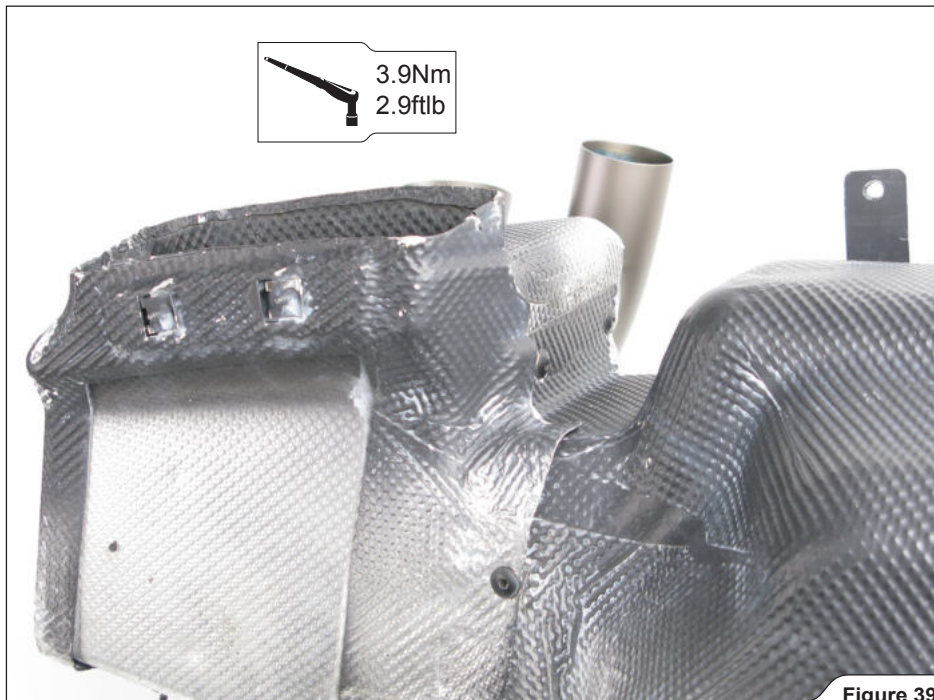

Figure 39
5. Mount the front and side parts of the original muffler's heat shield onto the Akrapovič muffler in the reverse order from the order in which they were removed; use original bolts (Figure 39, 40).